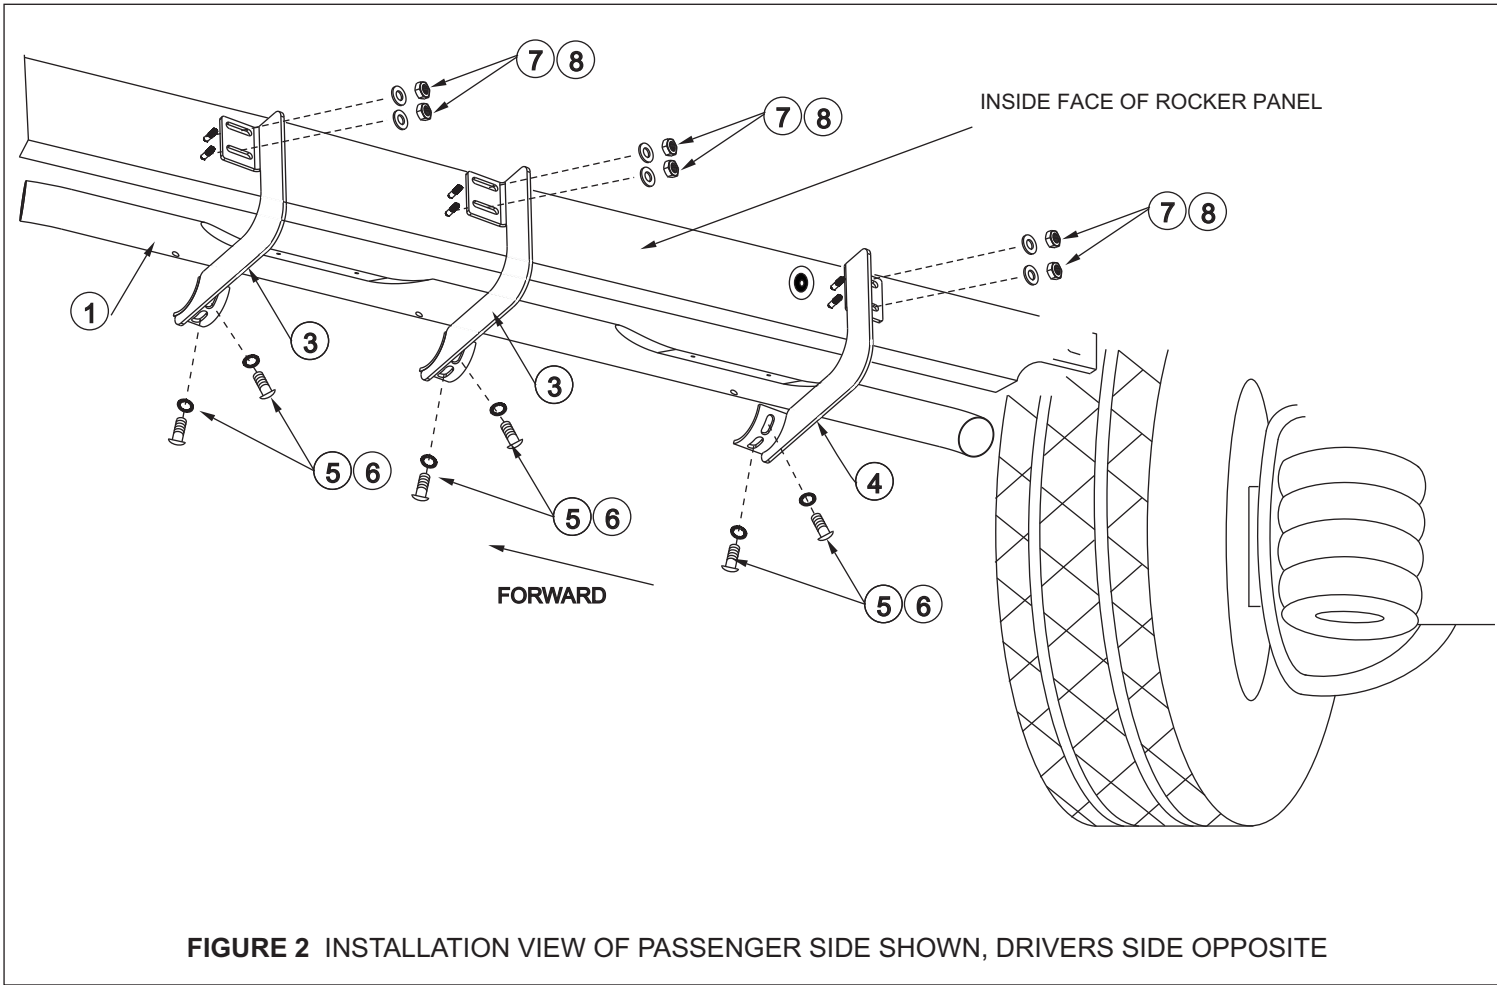

FIGURE 2 INSTALLATION VIEW OF PASSENGER SIDE SHOWN, DRIVERS SIDE OPPOSITE
- STEP 3. Locate passenger side mounting locations on vehicle. Attach mount brackets to rocker panel. Leave loose. **SEE FIGURE 2.**
- STEP 4. Attach passenger side step bar to cradles with the Westin logo facing outward as shown. Assemble with 3/8" fasteners. Leave loose. **SEE FIGURES 2 AND 3.** The step pad closest to the bend goes to the rear of the vehicle.